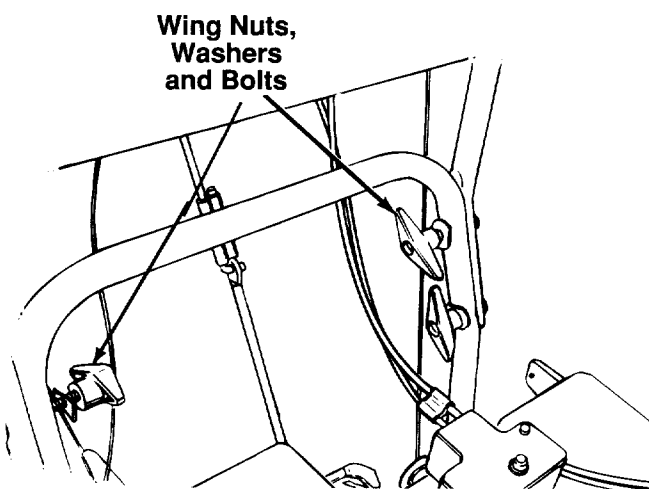

FIGURE 2.
6. Secure the upper handle and lower handle with the two plastic wing nuts, cupped washers and carriage bolts previously removed. See figure 2.